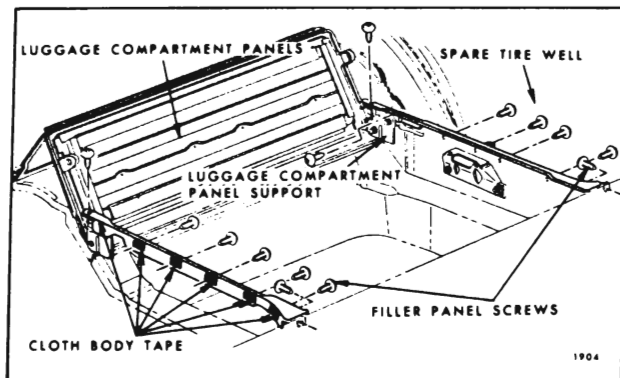

Fig. 15-50—Rear Compartment Pan Side Filler Panels
1. On "35" Styles, use handle and fold rear luggage compartment panel forward until it is resting entirely on front luggage compartment panel (Fig. 15-50).
5. Along inboard and outboard side facing of right and/or left panel, remove screws which secure panel to panel supports (Fig. 15-50) and remove panel(s) from body.
6. To install, reverse removal procedure. If installing new filler panel, apply cloth body tape over all screw attaching holes. (See Fig. 15-50).
2. Fold combined front and rear luggage compartment panels to "up" or half open position. (See Fig. 15-50).